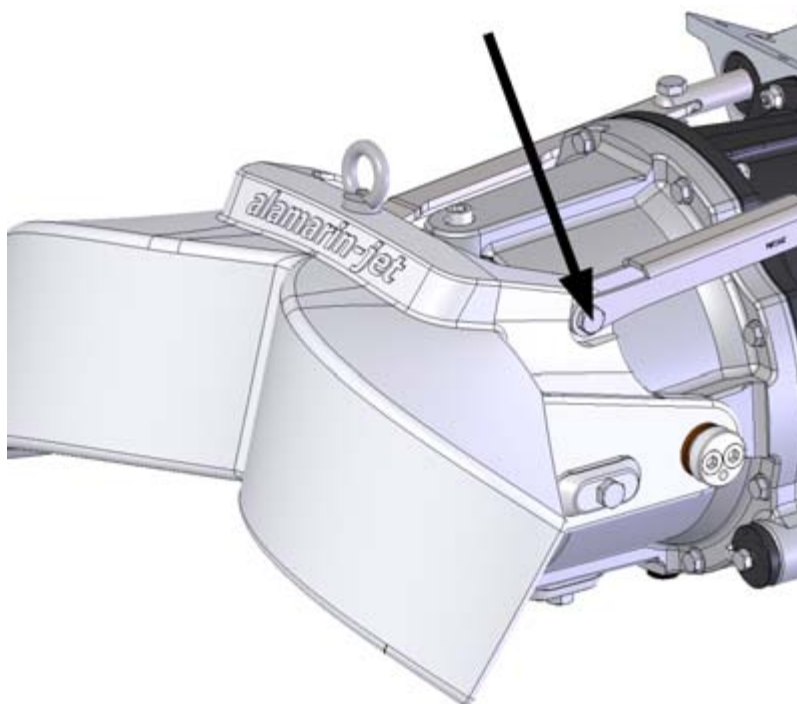
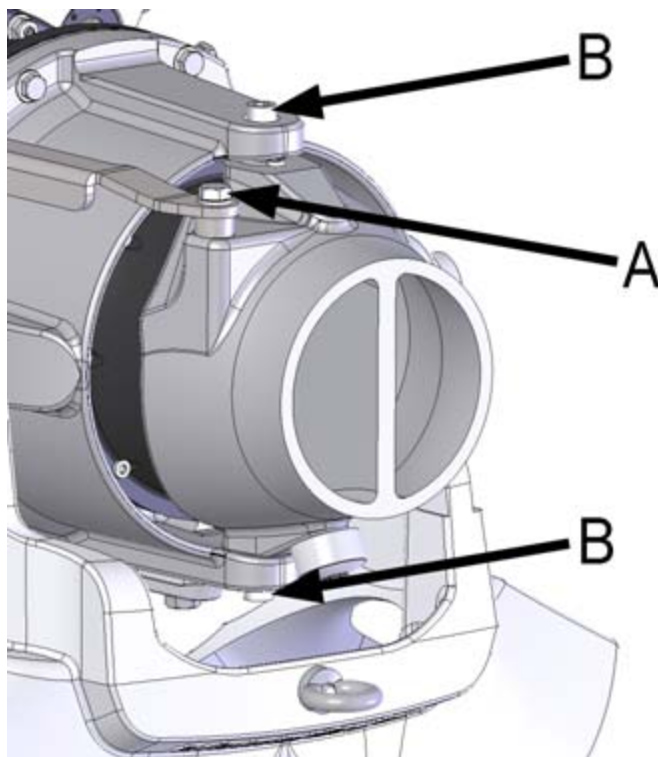

Figure 82. Reversing deflector intermediate bar connection
Figure 83. Removing the steering nozzle
1. Open the connection of the reversing deflector intermediate bar (figure 82) and lower the deflector.
2. Detach the steering cylinder connection from the steering nozzle (figure 83, point A).
3. Open the steering nozzle joint screws (figure 83, point B).
7. Attach the connection of the reversing deflector intermediate bar (figure 82).
1. Remove the joint between the reversing deflector and the hydraulic cylinder (figure 82) as well as the joint between the steering nozzle and the steering cylinder (figure 83, point A).